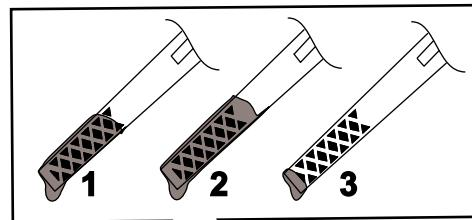

**Figure 38**
3. Tip the machine onto its side, with the dipstick down, to drain the used oil out through the oil-fill tube (Figure 38).